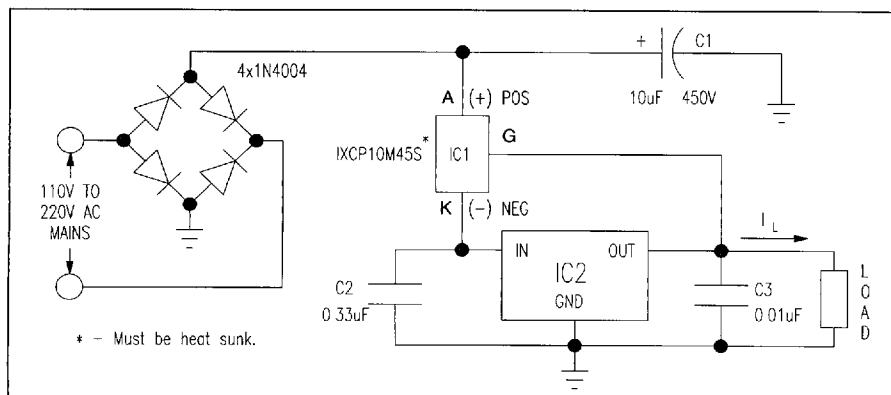

Fig. 9 Use of IXCP 10M45A to extend input voltage range to low voltage current regulators
In Fig. 9, the IXCP 10M45S, IC1, extends the input voltage range of a 5 V linear voltage regulator IC2, a 78L05 for example, to allow it to work off of 110 to 230 V~ mains. In fact, any three terminal linear regulator rated less than 50 mA (100 mA off 110 V mains) from 5 V to 22 V will work in this application. Assume that the rectified voltage across C2 is sufficiently positive to allow the output of 78L05 to supply I_L to the load with a regulated 5 V. Under steady state conditions the current output of IC1 (-) just matches the current input of IC2 (IN) with no current flow into or out of C2. Assume the current demanded by the load is such that I_L goes down. This will cause IC2 (IN) current to also go down resulting in excess current output from IC1 (-). This excess current will charge C2, resulting in IC1 (-) terminal voltage becoming more positive, which then reduces the IC1 output current until it matches the IC2 (IN) input current. If the current demanded by the load goes up increasing I_L , the IC2 (IN) input current will also go up. C2 will initially source the additional current by discharging itself. The reduction in C2 voltage causes IC1 (-) terminal to become more negative with respect to IC1 and results in IC1 output current increase. In steady state, IC1 will provide exactly the current required by IC2 - no more and no less. Note that IC1 must be heat sink since its average power dissipation is approximately peak input mains voltage multiplied by the output regulator current.